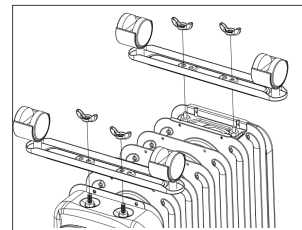

Fig.1
3. Attach the wheel-holding plates onto the heater as Fig.1 shows . The plate is fixed between the last two fins and the other one is fixed under metal control box, Fix the castors to the vertical axis of both the wheel holding plates.